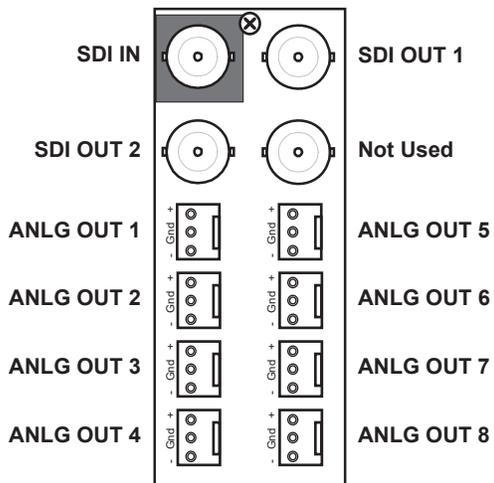
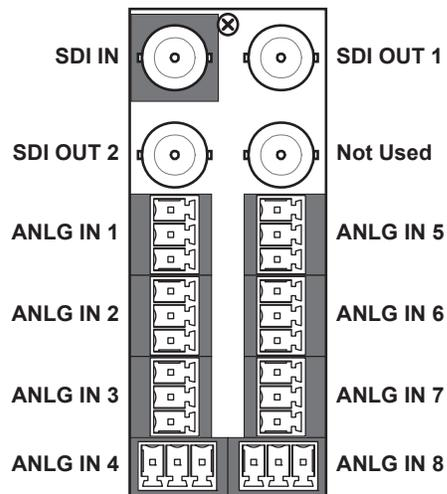

Figure 27 Cabling — 8320AR-062-02
Figure 28 Cabling — 8320AR-062-03
**Figure 27** illustrates the cabling designations for the 8320AR-062-02 rear module. **Figure 28** illustrates the cabling designations for the 8320AR-062-03 rear module.